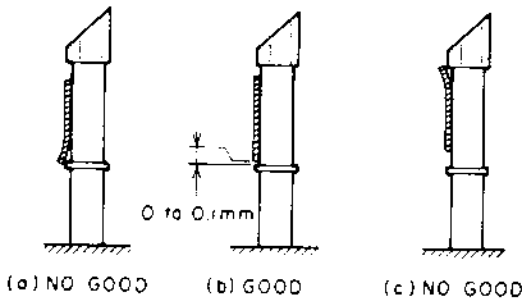

Fig. 6-7
- 1) Turn the NUT (a) for coarse A/C HEAD BLOCK height adjustment as in Fig. 6-7, 8.
- 3) Depress the REV button (REVIEW mode) confirm the curl at the tape down edge is not existed at the TAPE GUIDE as shown in Fig. 6-7. Fig. 6-7 (c) is not acceptable, but Fig. 6-7 (b) is acceptable).